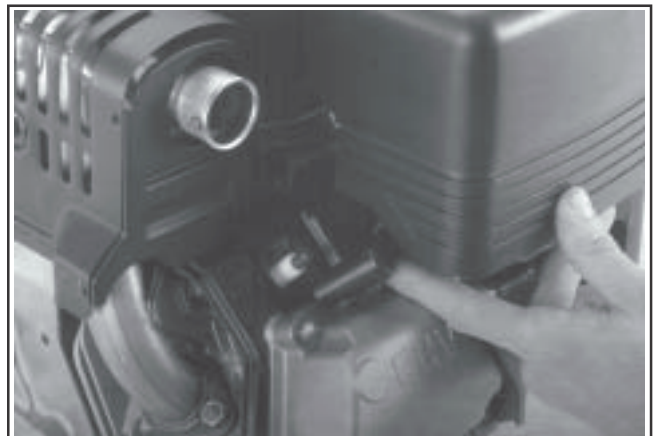

Figure 9-1. Disconnecting Spark Plug Lead.
1. Disconnect the lead from the spark plug. See Figure 9-1.